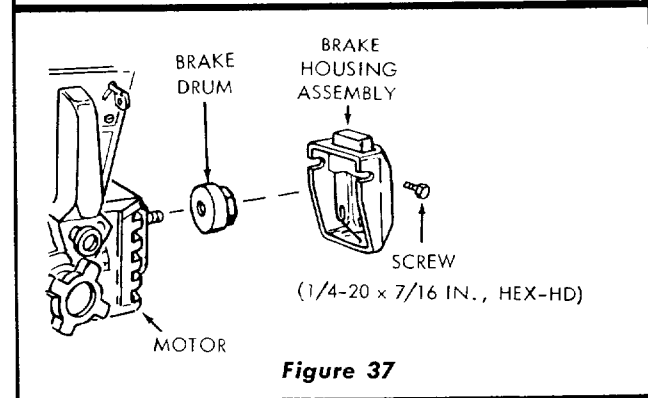

Figure 37
Prior to performing any operation that requires the use of the motor shaft opposite the saw blade end (routing, dovetailing, boring, sanding, etc.), it will be necessary to remove the manual brake assembly to expose the end of the shaft. This is accomplished as follows: (See figure 37.)
6. When finished with the particular operation being performed, install the manual brake assembly by reversing the preceding removal procedure. (See figure 37.)